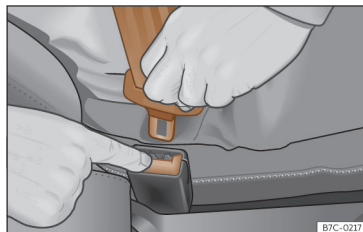

Fig. 22 Release the seat belt's latch plate.
- Press the red button on the buckle >>> **Fig. 22**. The latch plate is released from the buckle.